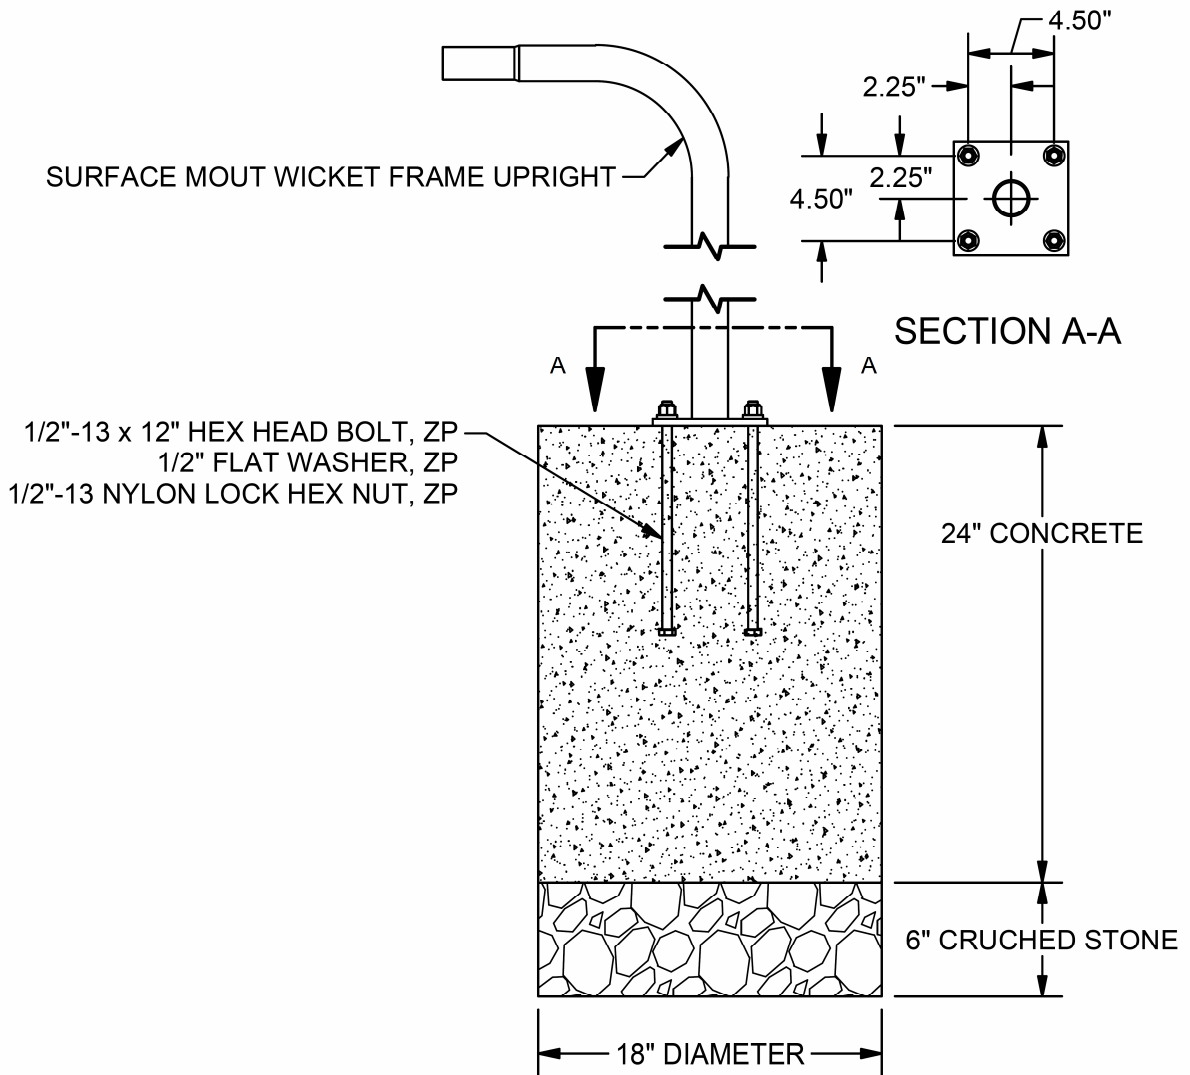

FIGURE: 2 – FOOTING DETAIL
1. Dig footing holes and install the ground sleeves as shown in Figure 2. Allow the concrete to cure.